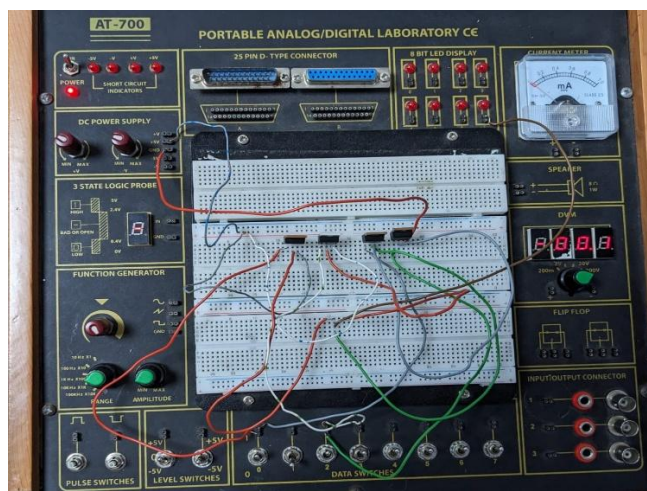

Fig.1: NAND gate using Cmos
3. Repeated steps 1 and 2 for each circuit set-up for Fig.1